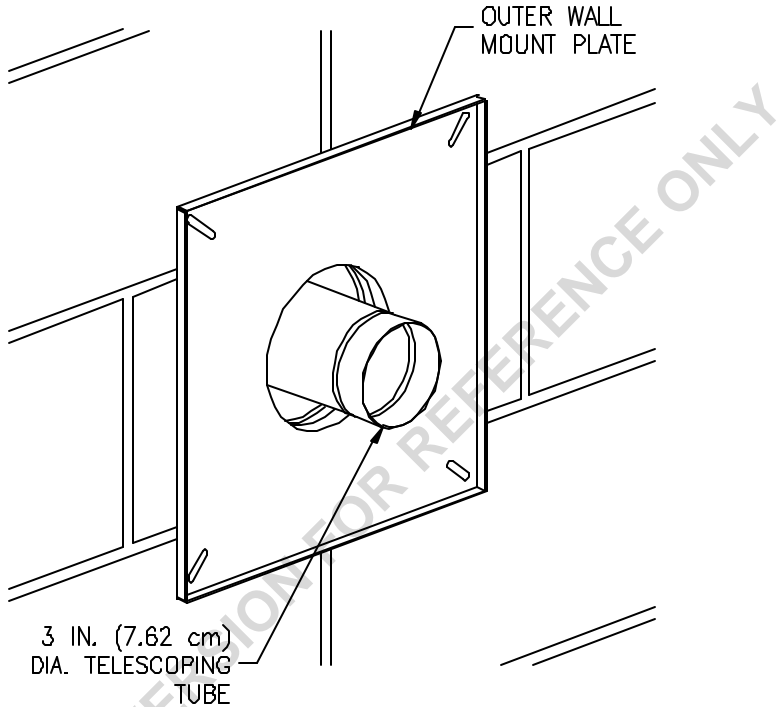

Figure 12
9. From outside the building, slide the five (5) inch (12.7 cm) diameter telescopic tube through the opening in the wall until the outer wall mount plate is flush with the wall (See Figure 12).